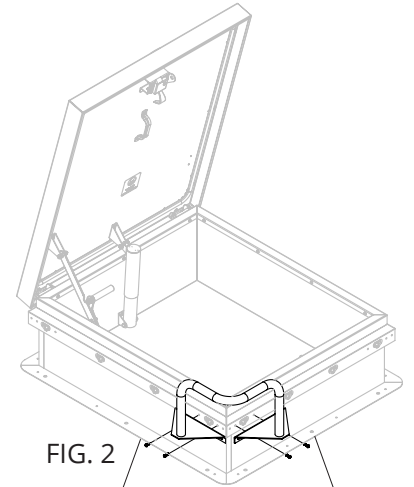

FIG. 2
2. Fully fasten one plate with provided screws (either the round head torx 1/4-20 x 3/4" or the hex head 3/8-16 x 3/4") then fasten the other plate. (Fig. 2 & 3)